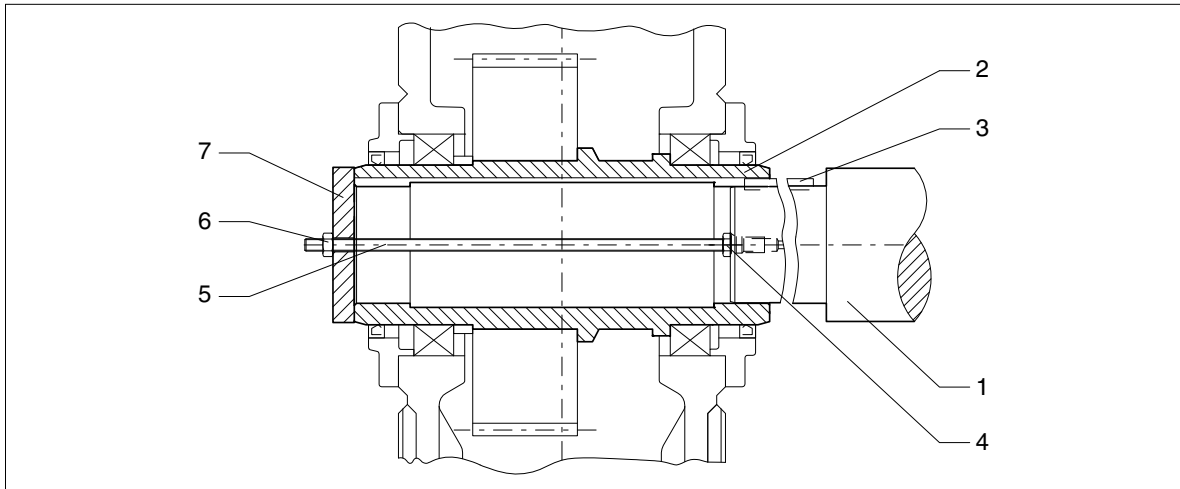

Fig. 44: Hollow shaft with parallel keyway, fitting with threaded spindle
- using a central threaded spindle or (see figure 44)